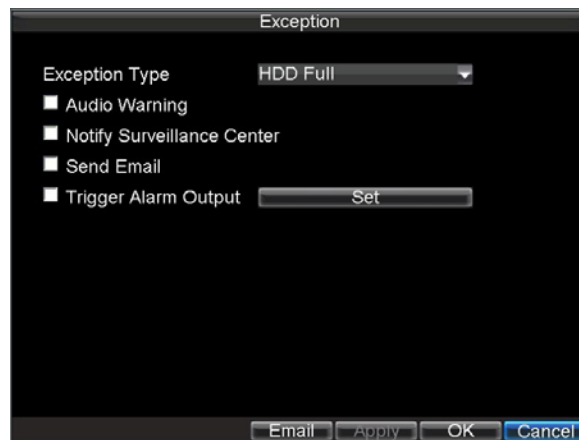

Figure 19. Exception Menu
3. Select triggering options, as shown in Figure 19. Trigger options are further explained in the next section (See *Understanding Exception Trigger Options*).